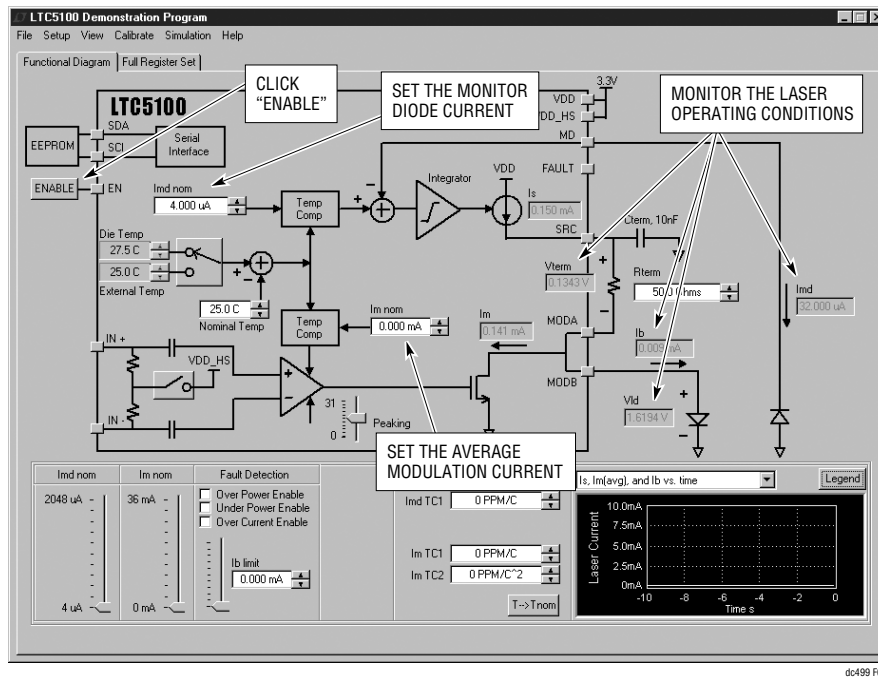

Figure 5. The LTC5100 Demonstration Program in Automatic Power Control (APC) Mode
9. You will see the screen depicted in Figure 5. If the laser has a monitor diode, follow the instructions in the white boxes to enable the transmitter and turn on the laser. Otherwise, switch to constant current control (CCC) mode as described in step 10.